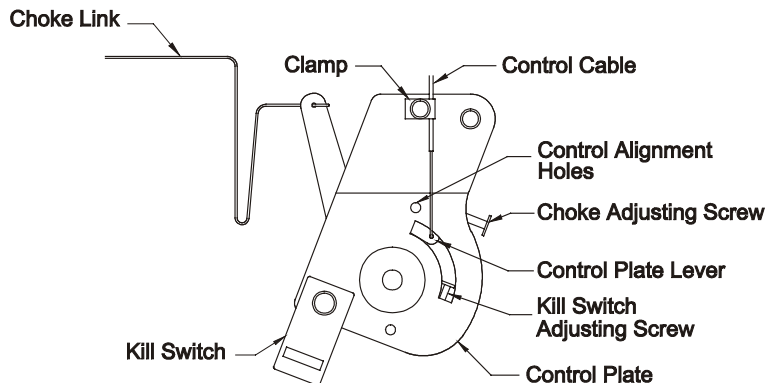

FIGURE 2
- c) Loosen clamp on engine control plate. (See Figure 2). Attach inner wire of the throttle cable to the control plate lever and position cable under clamp, **do not** tighten clamp.